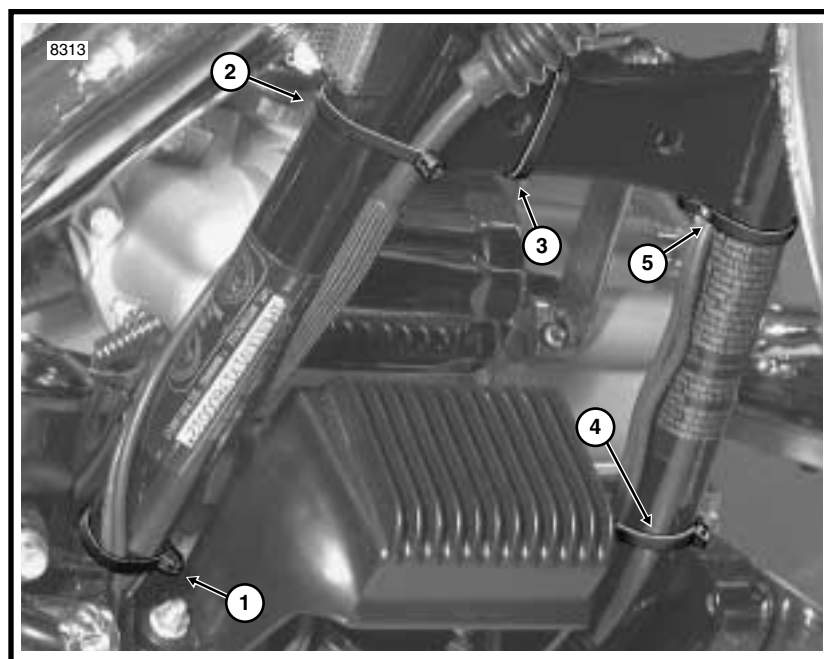

Figure 2. Cable Routing and Cable Strap Location (Right Front View)
7. From cable clip at front right side of lower frame crossmember, start cables up the front of the right frame downtube crossing to the rear about two inches from the bottom. Capturing frame tube and voltage regulator cables, install first cable strap at this location. See number 1 in Figure 2.
(First remove existing cable strap at this location, if present.) See number 2 in Figure 2.
10. Loosely install third cable strap around brace capturing pin housing on inboard side. See number 3 in Figure 2.
12. Move to left side of vehicle. Feed socket housing and cable conduit up and then forward between lower frame crossmember and engine stabilizer link to left frame downtube. Capturing stator cables, install fourth cable strap about two inches from bottom of frame downtube. See number 4 in Figure 2.
14. Route stator cables up the rear of the left frame downtube to the cross brace. Install fifth cable strap where downtube meets bottom of cross brace. See number 5 in Figure 2.